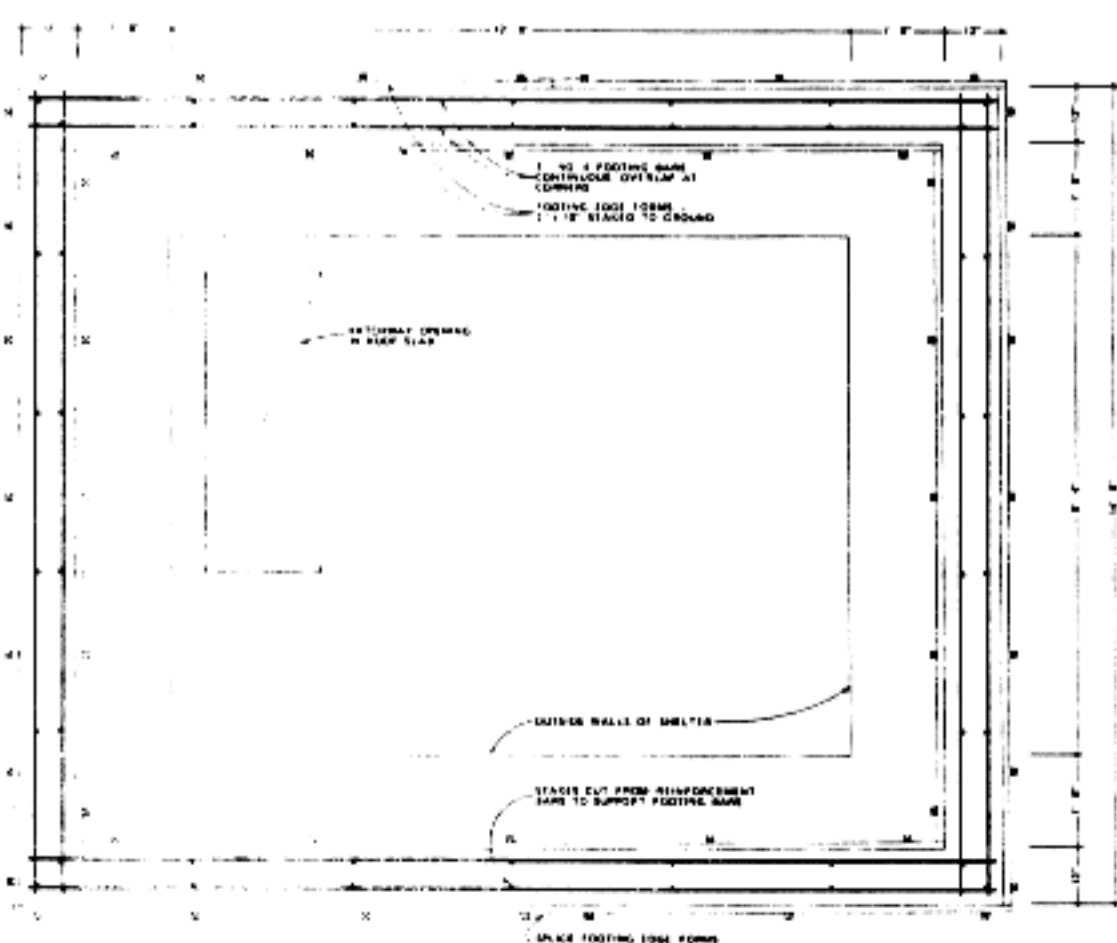
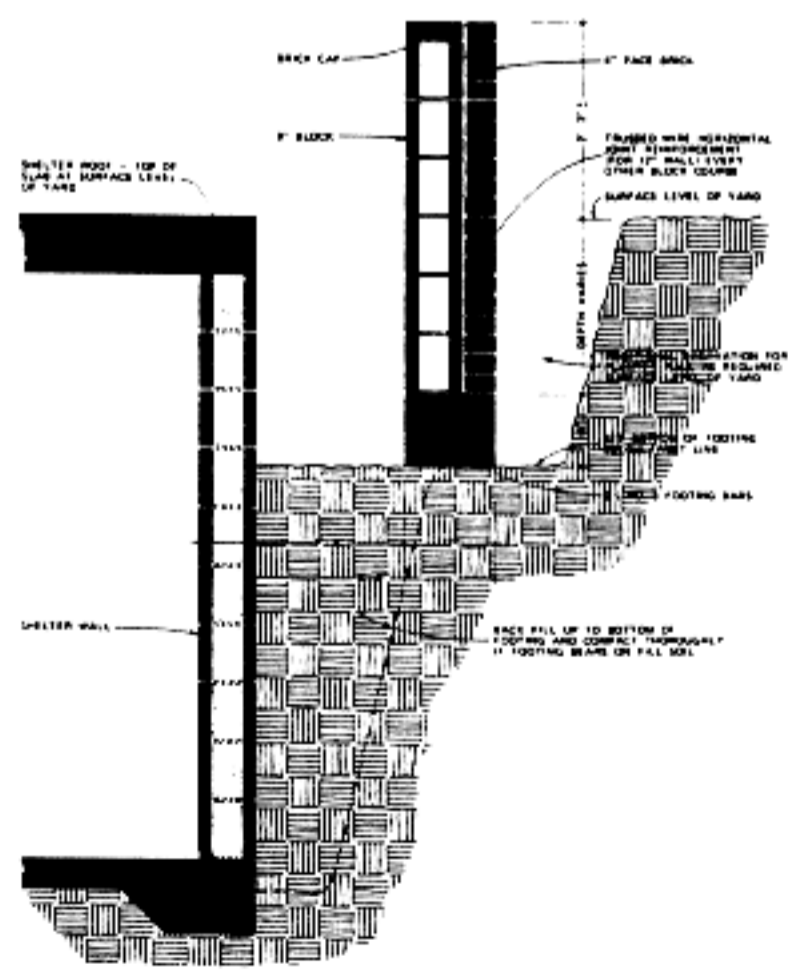

Figure 61. Plan of footing reinforcement steel for planter walls
Figure 62. Planter walls location relative to the shelter wall
The amount of soil, if any, to be excavated for the planter wall footings will depend upon the slopes of the side walls of the original excavation is indicated in Figure 62, it is possible that the footings will need to be placed upon fill soil. In such a case, backfill soil can be placed up to the level of the bottoms of the planter wall footings.
Footings for the planter walls should be placed upon firm soil either undisturbed soil at the bottom of the excavation or thoroughly compacted fill material. Figure 62 indicates one type of condition for which compacted fill may be necessary. Corners for the planter wall footings may be located in the same manner as described in Section 3 for the floor slab of the shelter. Elevations of the tops of the footings should be established using a transit level or water filled hose as is described on pages 15 and 16. Footings for the planter walls should be side formed (both sides) using 2" X 10"s held in place by stakes nailed to the sides, as shown in Figure 61. Corners should be set with identical elevations to the tops of the footings and verified for accuracy relative to the original point of vertical reference. Batter boards may be the most convenient way to accurately set the corners of the footing forms. Note for the example shelter that the elevation of the tops of the planter wall footings has been established after first establishing the elevation of the tops of the planter walls relative to the surrounding yard and working backward to the top of the footings, using the coursing height of the brick and block to set the elevation belowground. Use has been made of the fact that in general one block course equals three bricks course. Keeping with this relationship, the heights of the planter walls has been coordinate with the elevations of the block walls of the main structure and the raised hatchway. The depth of the planter wall footing below the surface of the ground should be based upon the maximum expected depth of the frost level in the region in which the facility is constructed. The bottoms of the footings should be set at or below the maximum frost level. This is because freezing action of moisture in the soil possibly could heave the planter wall upward if this precaution is not taken. Each owner / builder will need to determine the depth of the footings for his shelter location by consulting with local builders or the local building department.
Horizontal reinforcement is used in the brick and block wall to hold the masonry wythes (the separate planes of masonry that make up the entire wall thickness) together. Trussed joint reinforcement for a 12" wall of two wythes (three wires running horizontally in the reinforcement) is used in the example. The joint reinforcement is placed in every second block bed course as is indicated in Figure 62.
**Step 4.** To set side forms for footings, nail stakes on about 4 ft. centers on length of 2" X 10" lumber which will be used for the forms. Abutting ends of lumber should be spliced as indicated in Figure 61 when available lumber length are shorter than the side walls to be formed. Footings for the return walls at the steps will be located and formed later in the construction work.
**Step 7.** Cut lengths of No. 4 reinforcement bars and place two bars in each footing, as indicated in Figures 61 and 62. Overlap bars at corners. If more than one bar is used for any single length of reinforcement, overlap the bars 24" and wire them together. Bars should be supported along their lengths about 3" above the surface of the soil using short lengths of bars driven into the soil. Dowels in the planter wall footings are not needed for the design shown which does not require vertical reinforcement, but dowels and vertical reinforcement may be necessary if the planter walls project higher above the level of the yard than is indicated in the design that is illustrated.
A brick cap is provided for the planter walls in the example. The bricks are placed flat, as indicated in Figure 62. Note: Some bricks are manufactured with holes throughout the least thickness. When these bricks are laid flat, the exposed holes are aesthetically unsightly. Therefore, it is desirable to select bricks of the cap that do not have holes.